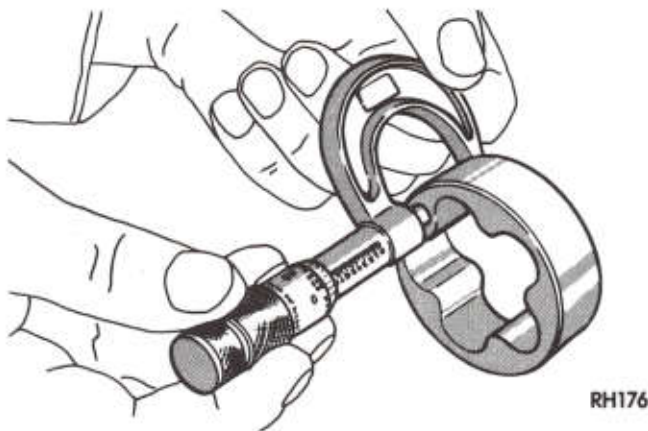

Fig. 58—Measuring Outer Rotor Thickness
(3) Measure thickness and diameter of outer rotor. If outer rotor thickness measures .825 inch (20.9mm) or less on 3.9L engine, (Fig. 58) or if the diameter is